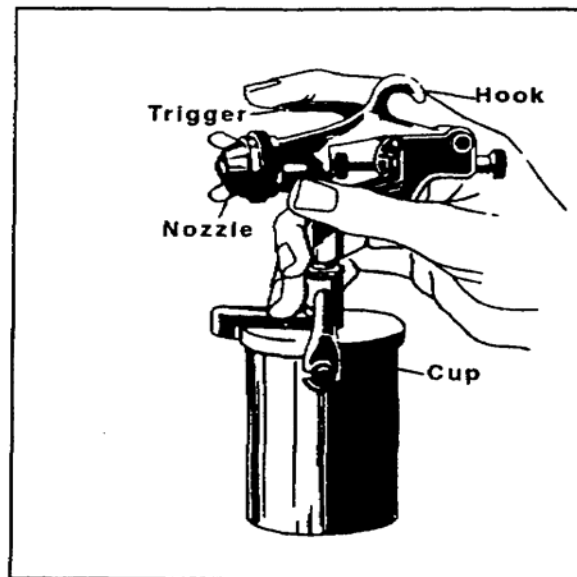

Figure 3-49. Stenciling spray gun
f. Spray Gun. A stenciling spray gun (Figure 3-49) is desirable for stenciling. This gun is smaller than the one used for painting and is known as a touch-up gun. It is not mandatory to have a small stenciling spray gun in a shop; however, it is desirable to have at least one spray gun that can be used only for this purpose. It is usually convenient to have more than one cup for a spray gun when more than one stencil paint color is used. The extra cups facilitate spraying different paint colors. General care and maintenance for a stenciling spray gun are the same as previously described for the regular paint gun.